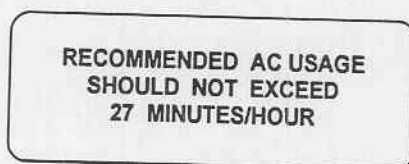

Figure 1-11. Operating time limitation decal.
(2) A decal (located on the inside of the case lid) recommending AC usage time is depicted in figure 1-11.